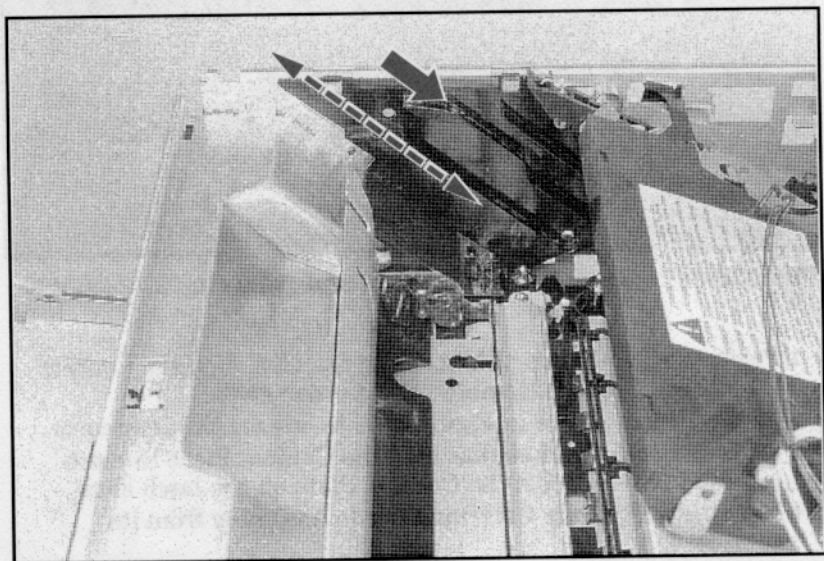

Figure 6-57 Orientation of HVCP and Left Guide Plate
- 2 Slide the Toner Cartridge Guide Plate into position on a diagonal line (see Figure 6-57).